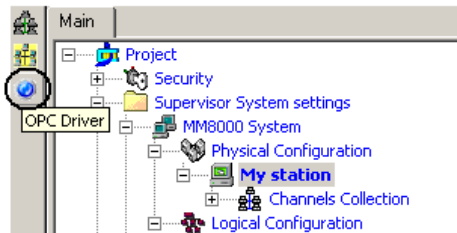

Fig. 7 Adding the OPC driver
3. Click on the OPC driver icon  in the icon toolbar (Fig. 7)